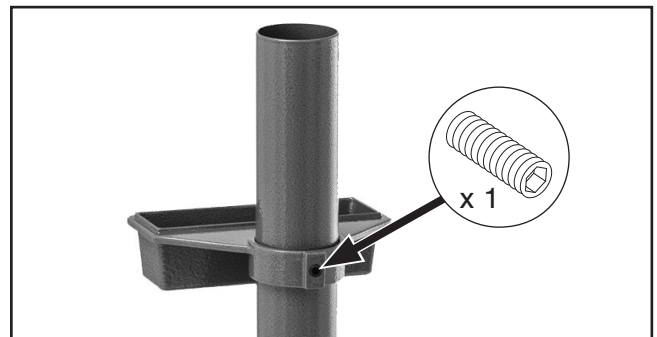

Figure 6. Coolant tray installed.
3. Slide coolant tray onto column, then tighten pre-installed set screw to secure tray at desired height (see **Figure 6**).